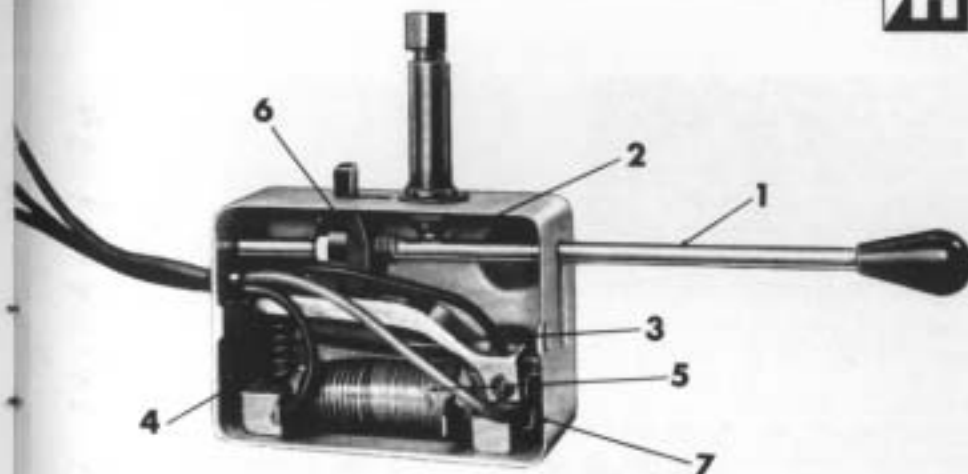

Figure 6
In the normal position the controller is "unapplied", and the control lever (1) is up as in Figure 6. Application of the tow car brakes will cause the hydraulic piston (2) to depress the control lever automatically and apply the trailer brakes in proportion to the tow car brake application. The control lever will always move with each application of the tow car brakes and return to the "off" position whenever the brakes are released, whether or not you are pulling a trailer. However, with the trailer disconnected from the tow car the